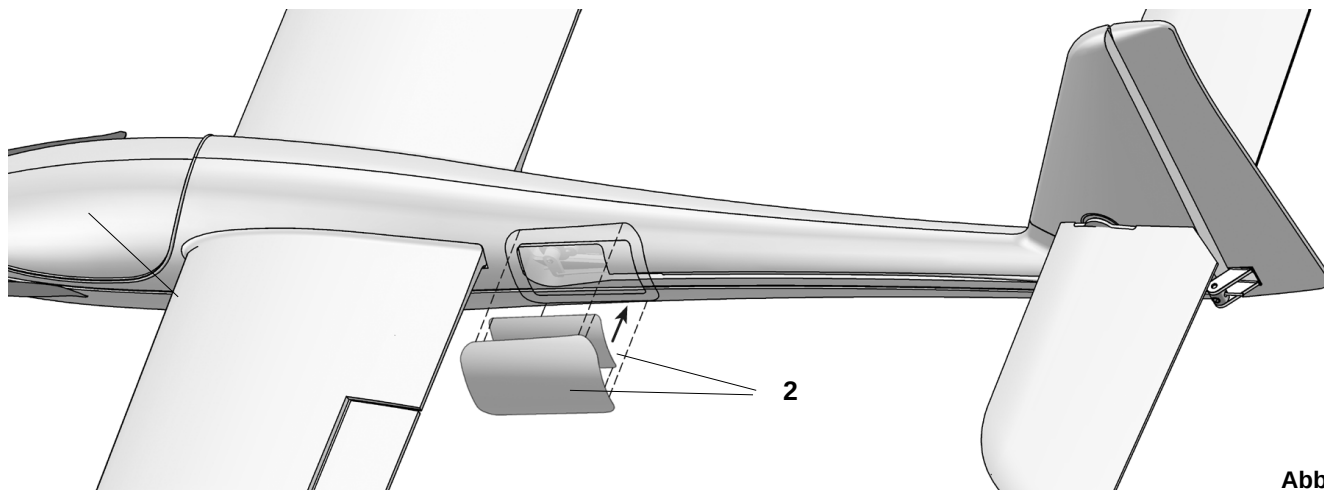

Abb. 25
3.6 Installing the rudder linkage, Fig. 14 (see also Fig. 25)
8. Rudder servo cover, Fig. 25